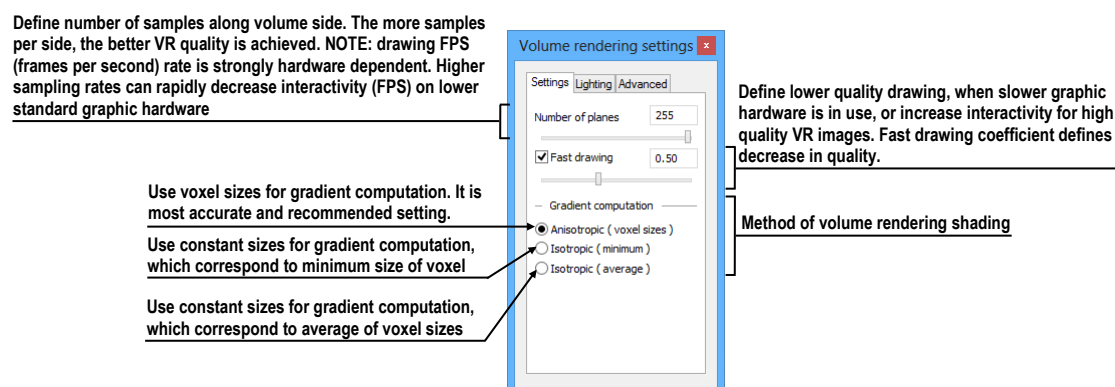

Figure 290 - Volume rendering settings, the first tab
- basic volume rendering quality on the first tab (see Figure 290)